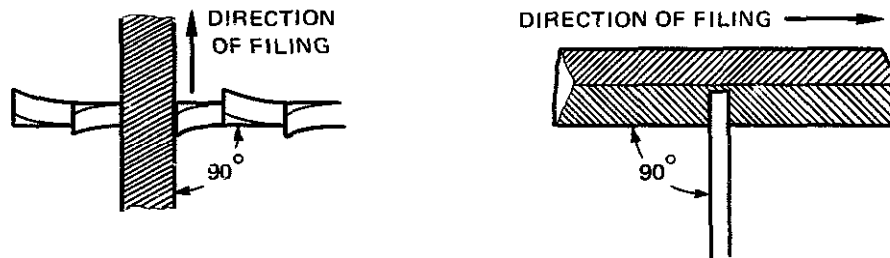

Fig. 7-14 Views showing the position of the file when reshaping ripsaw teeth.
4. Begin filing in the gullet nearest the handle or at the toe. Hold the file at right angles (90 degrees) to the blade as shown in figure 7-14, and file straight across.